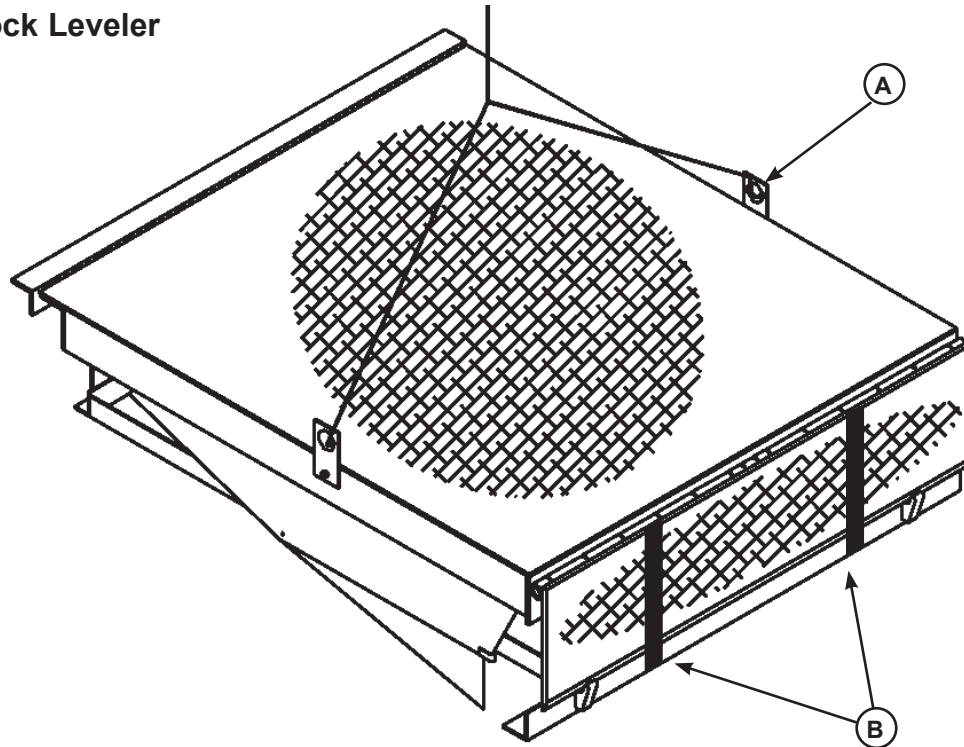

Figure 6
McGuire dock levelers are shipped with lifting brackets (A) fastened to the platform side joists, and shipping bands (B) around the platform lip and leveler frame (see Figure 6).
3. Attach lifting chains to lifting brackets (A) and to a lifting device (i.e., hoist or fork truck) having the appropriate lifting capacity and reach.